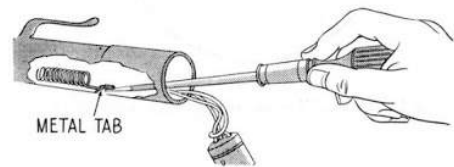

FIG. 31—Prying up metal tab holding bag support spring
4. With a screw-driver, reach into lower end of handle and carefully pry up the metal tab just enough to permit release of the bag support spring. See Figure 31.